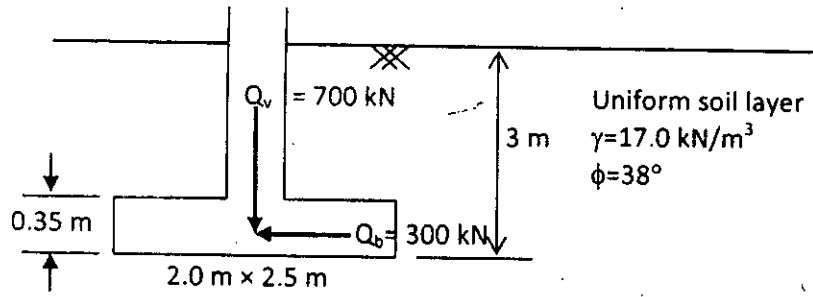

Fig. 1. for Q. 1(c)
1. (a) List five main causes that may induce lateral load to foundations. List the common methods for analyzing foundations subject to lateral loads. (5)
- (b) Write down the step-by-step procedure for designing reinforced-earth retaining wall using metallic strip reinforcement. (5)
- (c) Determine the factor of safety against sliding for the rectangular footing (2.0 m × 2.5 m) shown in the Fig. 1. Is the footing safe against sliding? Describe the effect of water table on the stability against sliding? (13 1/3)
2. (a) List the common uses of retaining walls. Briefly describe the main components of a retaining wall with metallic strip. (5)
- (b) List the common types of retaining wall drainage. Draw schematic diagrams of the drainage systems. (5)
(b) The concrete floor of a head regulator as shown in Figure 1 is level with the canal bed and is 13 m long. The floor is provided with cutoff walls at its upstream and downstream ends. The depth of upstream cutoff is 1.5 m and that of the downstream wall is 2 m. Using Khosla's theory determine the thickness of the floor at its mid length and also at its junction with the upstream and downstream walls. The floor thickness may not be less than 30 cm anywhere. The upstream FSL is 1.5 m above the floor level. Assume reasonable value for any missing information. (15 1/3)